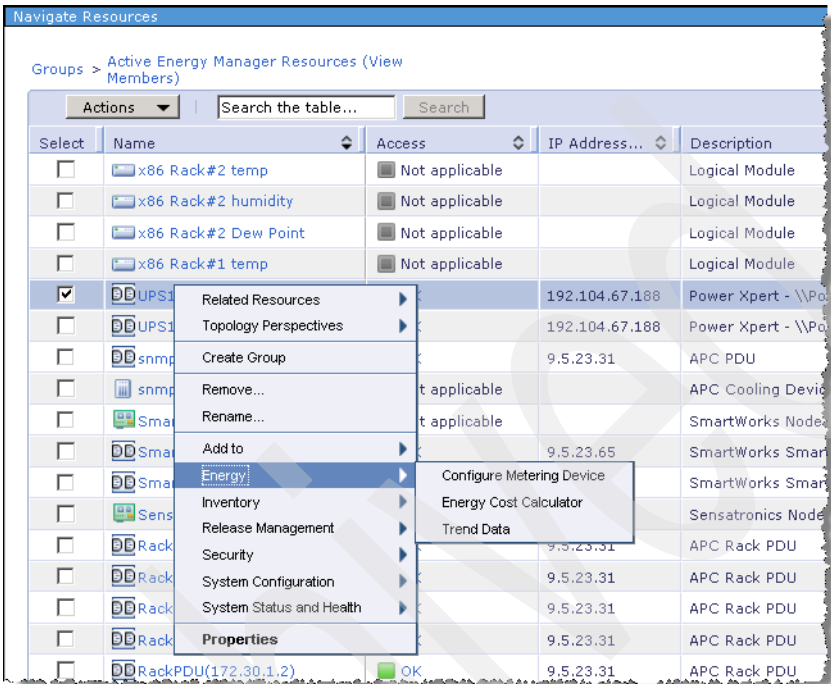

Figure 10-19 Active Energy Manager Resources (view Members)
3. Right-click any of the monitored facility equipment. Select **Energy** → **Trend data** as shown in Figure 10-19.